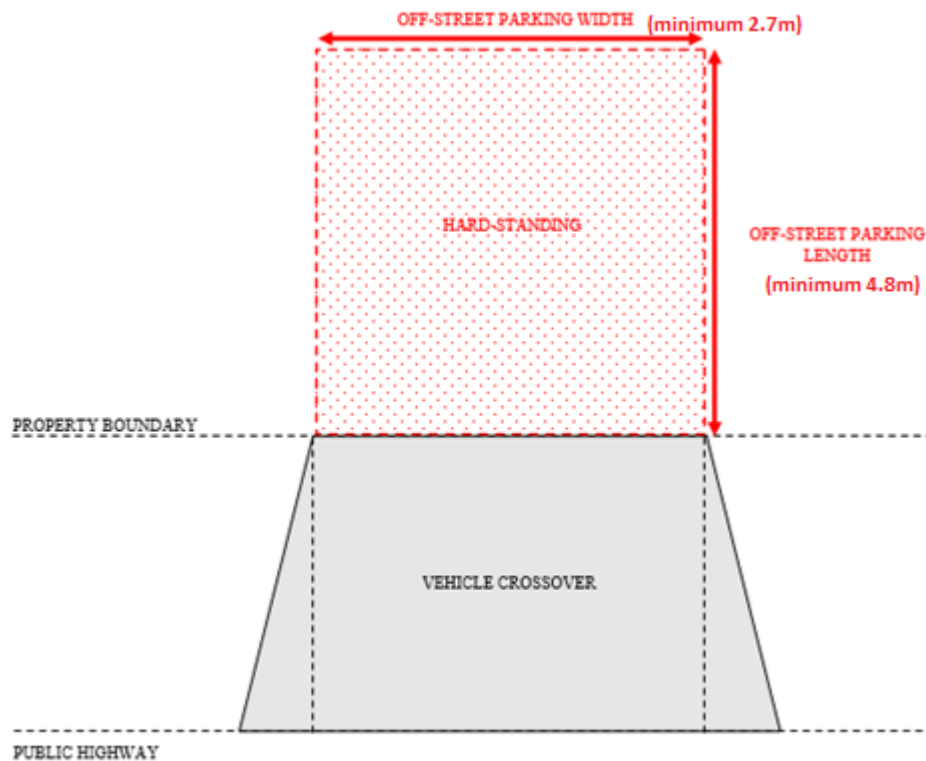

Figure 2: Off-Street Parking Area.
- Figure 2: Off-street parking area
- b) **Minimum Off-Street Parking Area** - The minimum off-street parking area measured at right angles to the highway is **4.80m long by 2.70m wide**, as shown in Figure 2, below, except where it fronts a garage. If there is a bay window, the measurement will be from the front of it. No 'short frontage' agreements will be entered into. Crossovers are approved on the basis that when using a driveway that drivers should reverse in and drive out in a forward gear onto the highway as set out in the Highway Code.